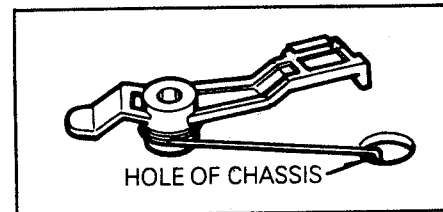

Fig. B-22-2 CAP Brake Assembly
- 2) Hook the end of Capstan Brake Spring to the projection of Capstan Brake and then remove the Capstan Brake Assembly by lifting it up (Fig. B-22-2).